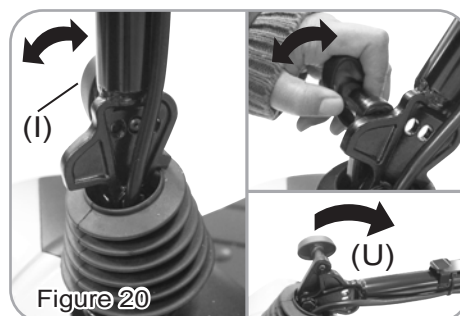

Figure 20
Turn the Cap (I) to fold down the Tiller (U) to the lowest position as shown in Figure 20. When the Tiller (U) is in the lowest position it can be locked by the pin of tiller angle adjustment.